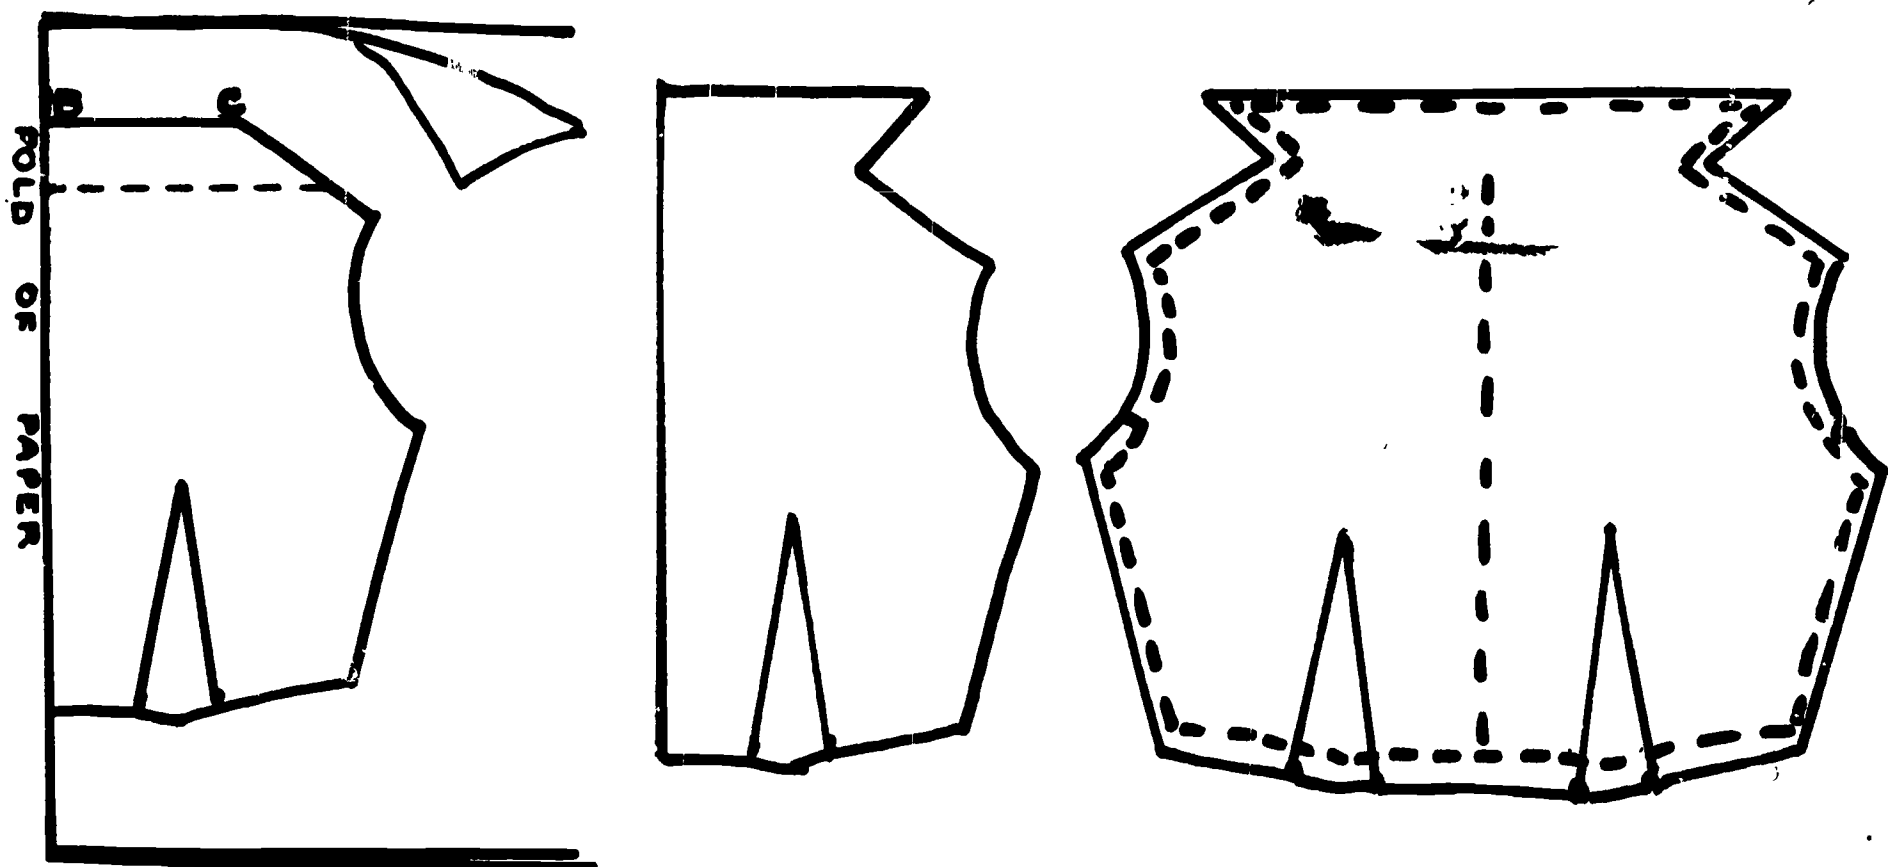

Fig. 160
8. Fold the paper at the neckline. Trace the facing line (broken line on the diagram) and the necessary section of the center-front line and shoulder seam. When open it will look like the center portion of Fig. 160.
9. Fold the paper along the center-front fold of the pattern and trace the entire front pattern. Add seam allowance and notches. When opened it will look like the right-hand sketch in Fig. 160.